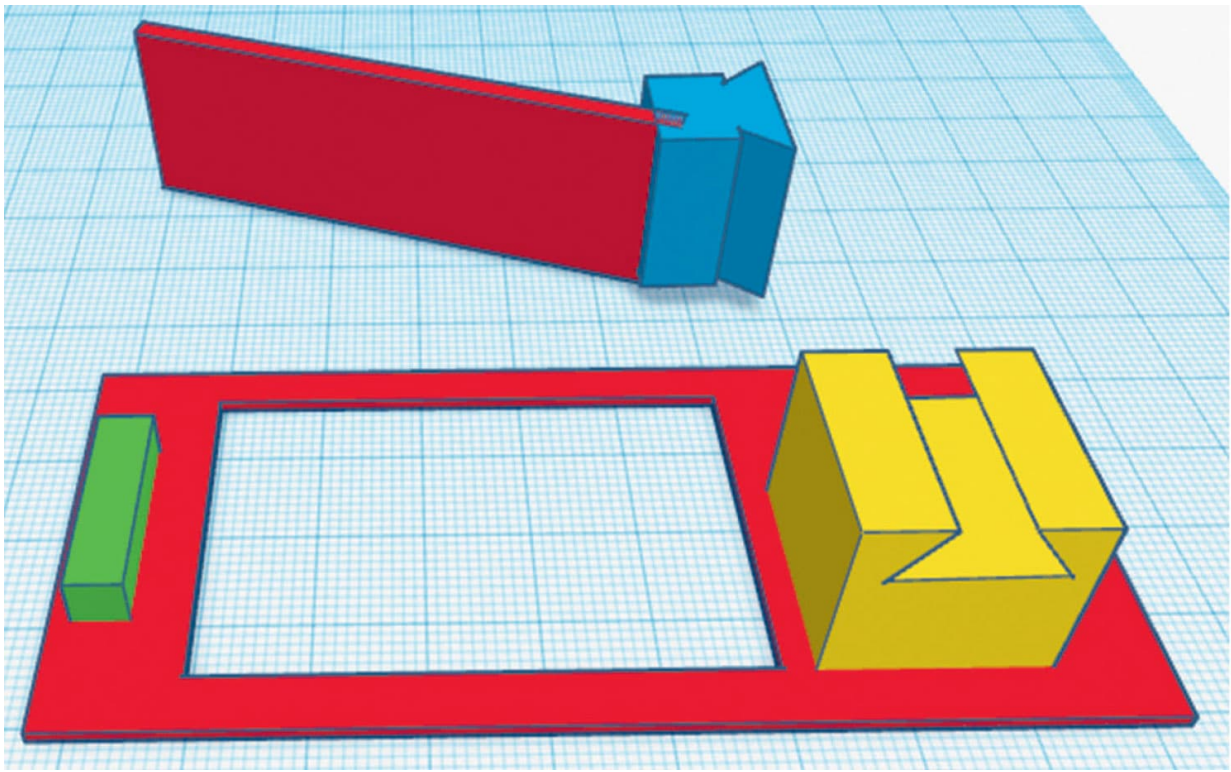

FIG. 4: *The completed cell phone holder design positioned for 3D printing.*
- Rotate the backrest-dovetail joint tail section so it is lying flat on the bed (fig. 4).